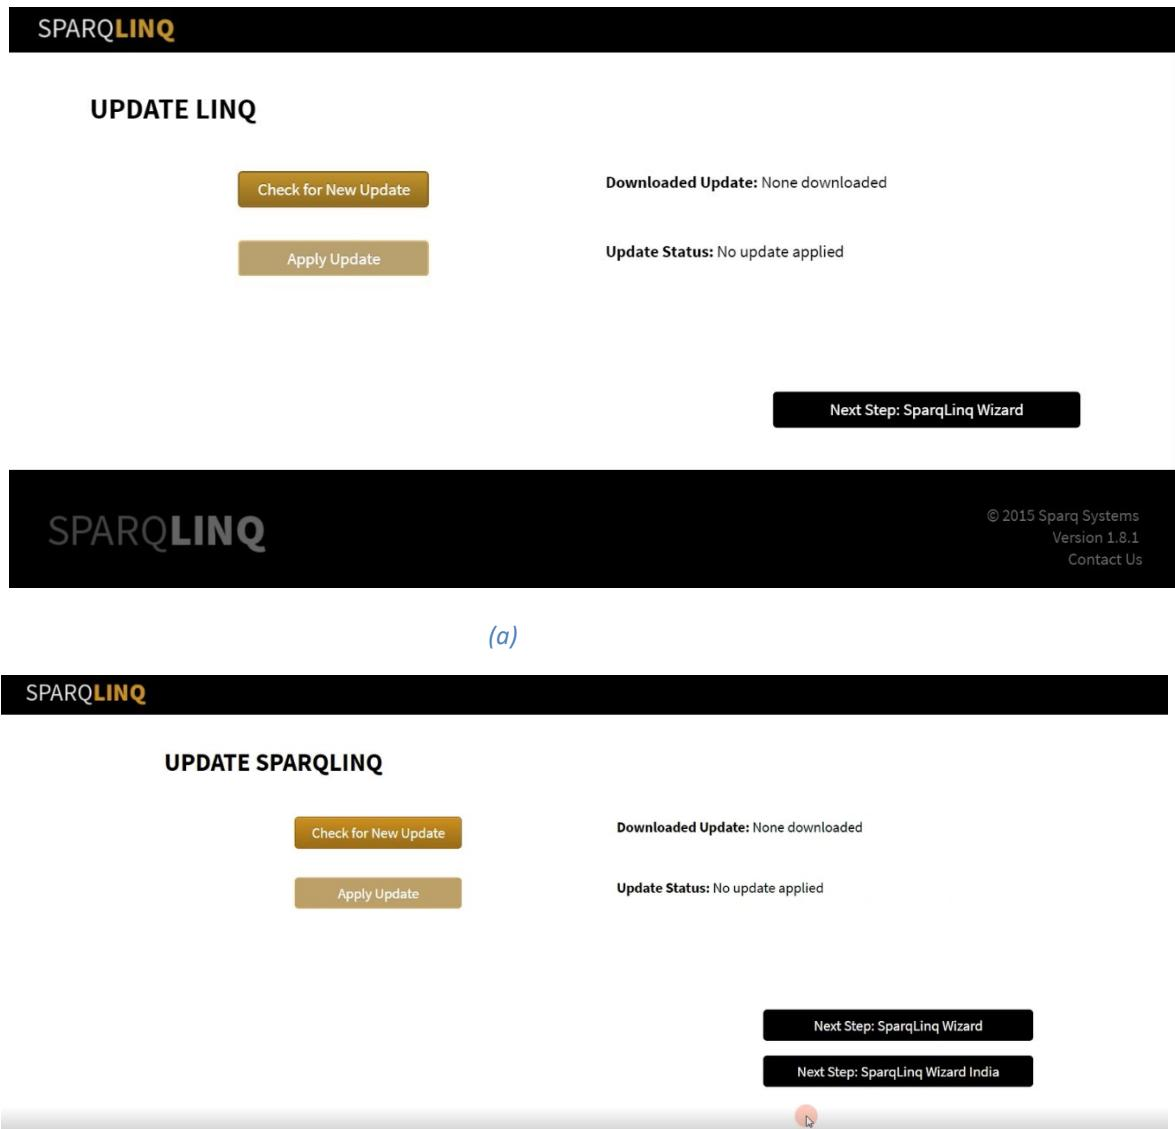

Figure 9: SparqLinq Software updates.
- Press “**Check for new Update**” on the screen as shown in Figure 9(a).
- After the update process is finished, **refresh** the browser webpage. Figure 9(b) shows the screenshot of the refreshed web page.